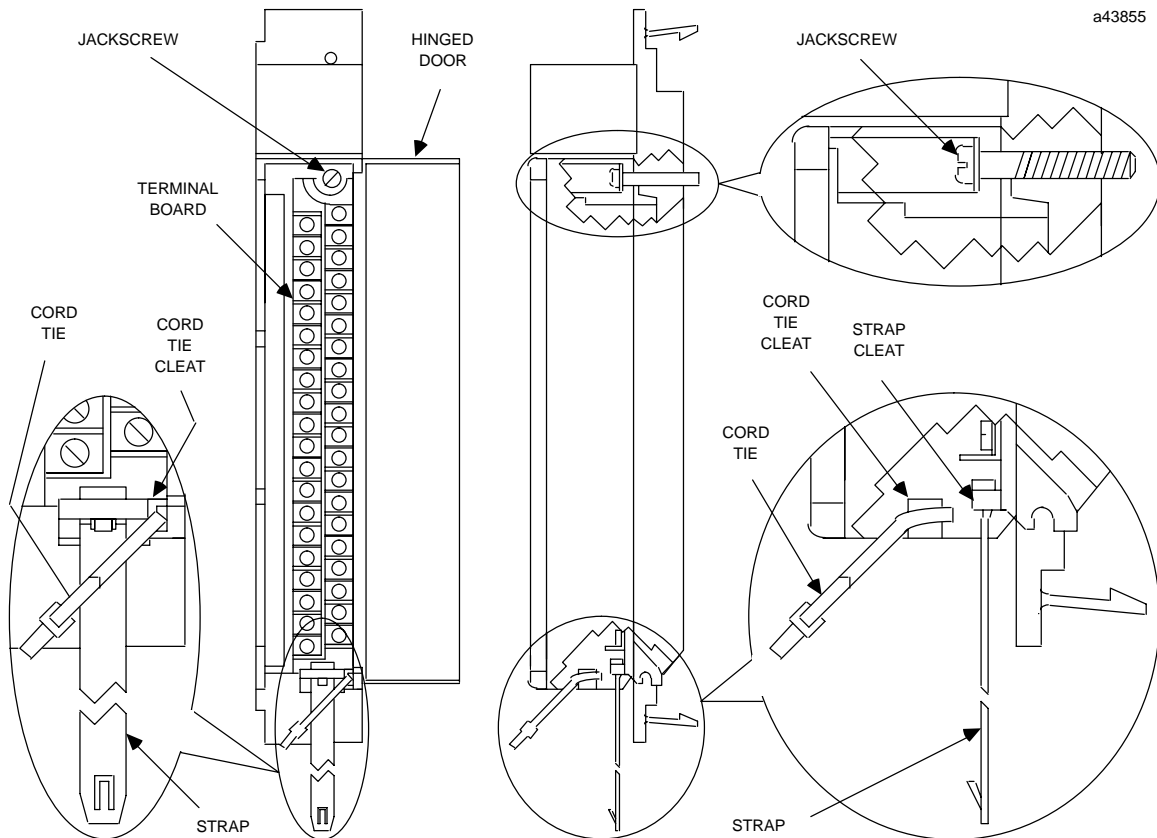

Figure 3. I/O Module Features
2. To remove the terminal board, grasp the top of the terminal board and swing it outward as shown in Figure 3.
4. The terminal board is designed to accept a maximum of (40) AWG #14 (2.10 mm²)wires. If AWG #14 (2.10 mm²) wires are to be used, then wire markers should be placed at least 8 inches (203 mm) from termination end to provide sufficient space for the hinged door to close.